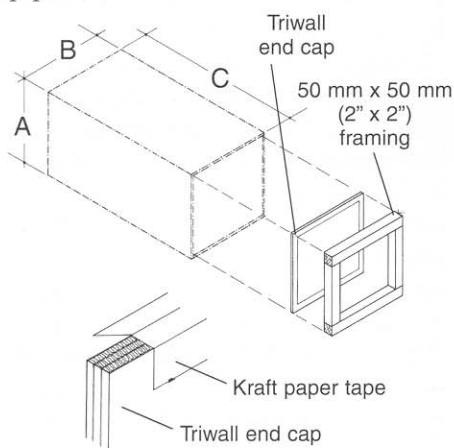

Figure 1.
2. Cut 2 pieces of triwall material to the required inside height (A) and inside depth (B) (Figure 1). These pieces will form the container end cap panels.